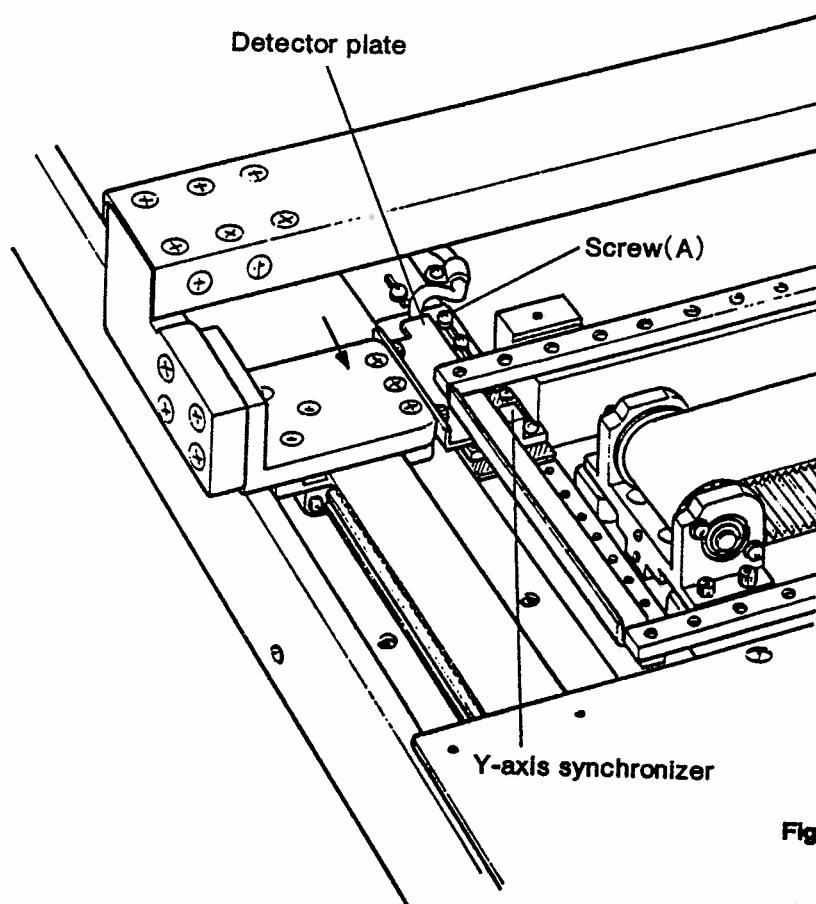

Fig. 10.18
- (1) Remove the two screws securing the X-axis bellows (left) cover.
- (2) Remove all the screws of the rear cover, remove the cover itself and position the parts so that they appear as in Fig. 10.18.
- (3) The home position is moved to the rear when the two screws (A) of the Y-axis detector are loosened and the detection plate is moved in the direction of arrow B (toward the front).
- (4) If the adjustment of the home position cannot be accommodated by the leeway provided by the elongated groove on the Y-axis detector, remove the two screws (A), change the positions of the screws and adjust.
- (5) After having adjusted the home position, move the X-Y table by hand and check that there is no contact between the detector sensor area and detection plate.
- (6) Set the HOME key to ON, perform home position return, and check that the home position has been shifted as intended.